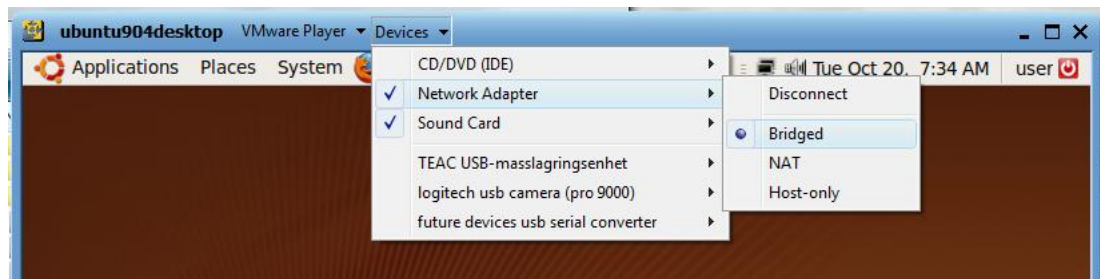

Figure 6 Activate Network Device
3. Make sure you have network access by activating the network device in VMware Player. It should be connected and of type "Bridged" as can be seen in Figure 6.